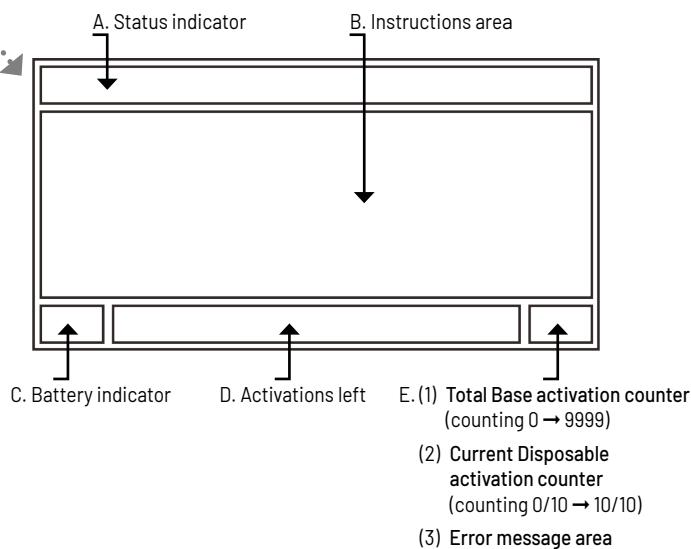

Fig. 2 (Base Display Screen)
- PLASMA[®]ield Base (A)
- Charger Input Port (1)
- Display Screen (2) - see Fig. 2 for details
- Disposable Inlet (3)
- Charger (B)
- AC Plug (4)
- Charger (5)
Always check the Base battery level before use. This appears on the Base Display Screen (see Fig. 2, C).
This appears on the Base Display Screen (see Fig. 2, A).